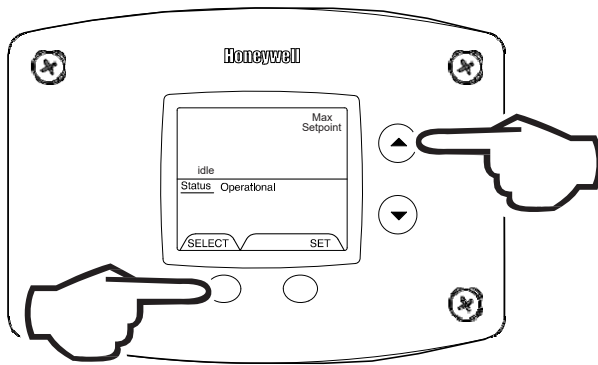

Fig. 55
- 30 Seconds after the last button press, the Water Heater Display will go back to 'User Mode'. It will read 'Max Setpoint' without showing a temperature value if the temperature setpoint is at the maximum setting. The Water Heater Display can be set back to the 'User Mode' immediately by pressing both the 'Temperature Up' and 'Select' buttons together for 3 seconds (Fig. 55).